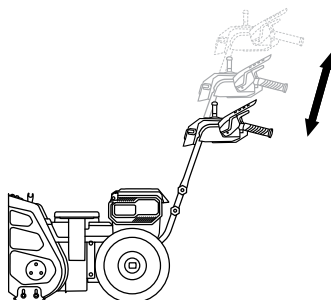

Fig. 2D
3. Raise or lower the upper handle and select the appropriate height, re-assemble the upper locking knobs and bolts; then tighten the two lower locking knobs to secure the lower handle. (Fig. 2D)